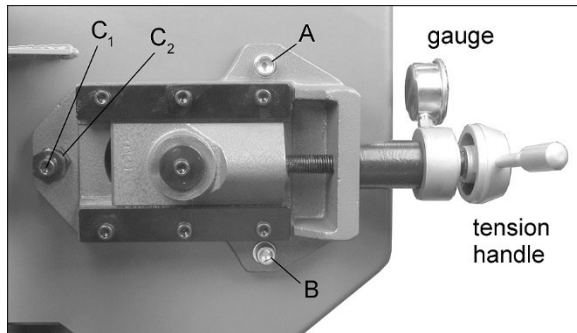

Figure 7-1: blade tension and tracking
- Release blade tension by turning tension handle (Figure 7-1) counterclockwise.
Blade tension has been preset by the manufacturer for the installed blade at 18,000-20,000 psi (1200-1400 kg/cm²); if further adjustment is required, or after installing a new blade, turn handwheel (Figure 7-1) clockwise to appropriate tension for the installed blade.